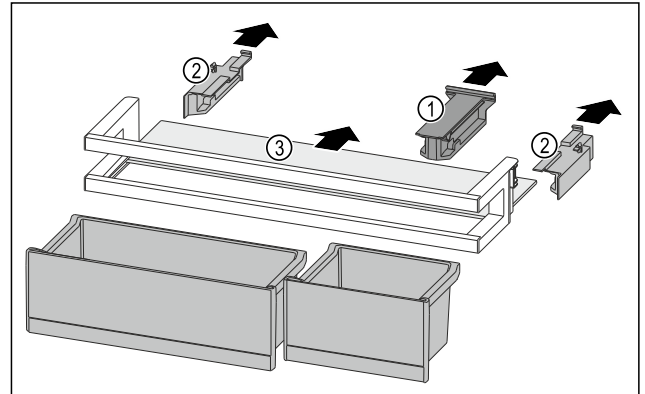

Fig. 110
- Pull off the retaining part Fig. 110 (1).
- Pull off the side part Fig. 110 (2).
- Remove the shelf Fig. 110 (3).